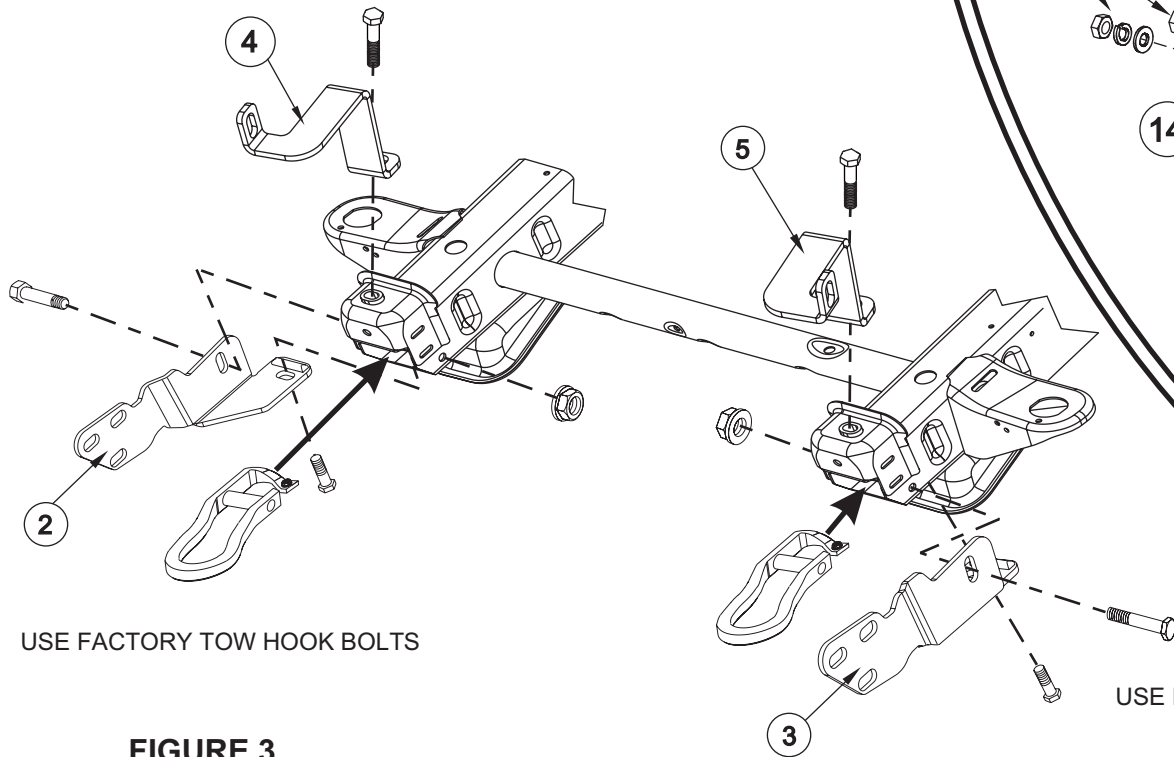

FIGURE 3
- STEP 5. Remove the two top existing frame bolts and install the upper brackets. Reinstall the bolts but leave them loose. **SEE FIGURE 3.**
- STEP 8. Slide brackets in through the backside of the tow hook pockets. Align upper slots on brackets with holes on the outside of the frame ends. Reinstall tow hooks. Secure with factory hardware. Leave loose. It may be necessary to trim the fascia around the tow hook area in order to properly align the brackets. **NOTE:** If using M12 bolt plates, use the supplied M12 yellow zinc fasteners. **SEE FIGURES 3 AND 5.**